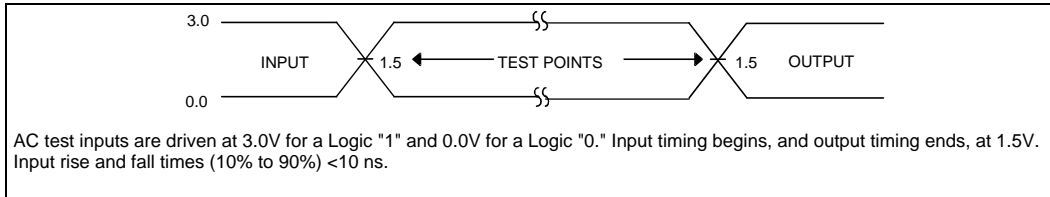

Figure 13. Transient Input/Output Reference Waveform for V_{CC} = 5.0V ± 5% (High Speed Testing Configuration)
5. See Figures 13 through 15 for testing characteristics.